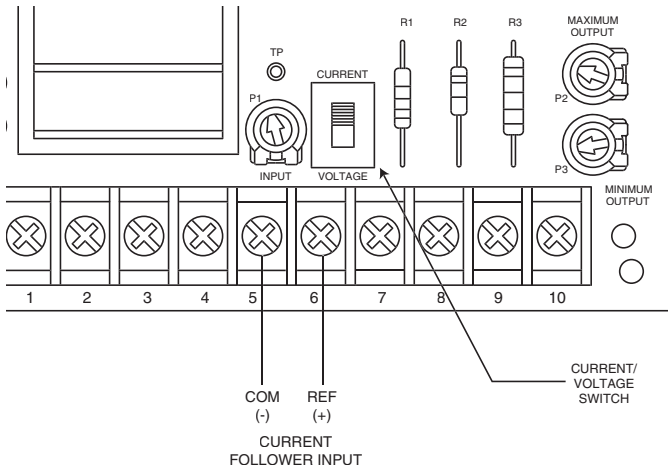

Figure 6. Connection – Following an External Current Signal
- (1) Set the Current/Voltage Switch to Current.
- (2) Connect the incoming current signal leads as shown in Figure 6 below.
- (3) Connect the negative lead to Terminal 5.
- (4) Connect the positive lead to Terminal 6.